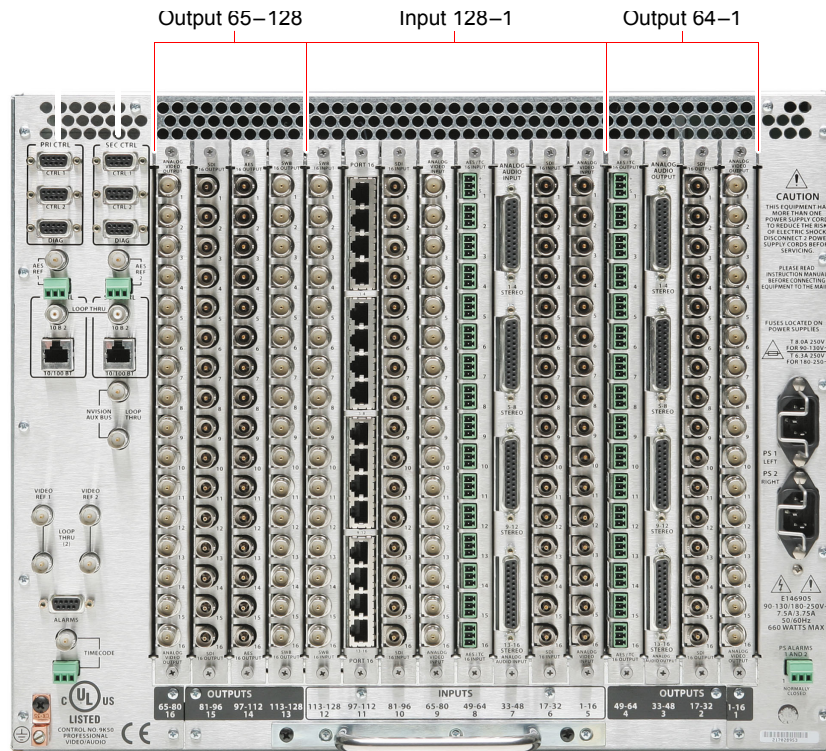

Figure 3-8. NV5128 Frame with Backplanes (Rear View)
Figure 3-8 shows the rear of the router with backplanes containing connectors for receiving and distributing signals and the location of inputs and outputs for signal connections.
- 1 Locate the AES *input* connections at the rear of the router, as shown in Figure 3-8 on page 51. There are 16 BNC connectors on each backplane for AES unbalanced signals and 16 Phoenix connectors on each backplane for AES balanced signals.
- 4 Locate the AES *output* connections on the rear of the router, as shown in Figure 3-8 on page 51.
- 1 Locate the analog *input* connections on the rear of the router, as shown in Figure 3-8 on page 51. There are four DB25 connectors on each analog backplane.
- 4 Locate the analog *output* connections on the rear of the router, as shown in Figure 3-8 on page 51.
- 1 Locate the *input* connections at the rear of the router, as shown in Figure 3-8 on page 51. There are 16 BNC connectors on each SD, SWB or analog video backplane.
- 4 Locate the *output* connections on the rear of the router, as shown in Figure 3-8 on page 51.
- 1 Locate the time code *input* connections on the rear of the router, as shown in Figure 3-8 on page 51. There are 16 Phoenix connectors on each time code backplane.
- 4 Locate the time code *output* connections on the rear of the router, as shown in Figure 3-8 on page 51.